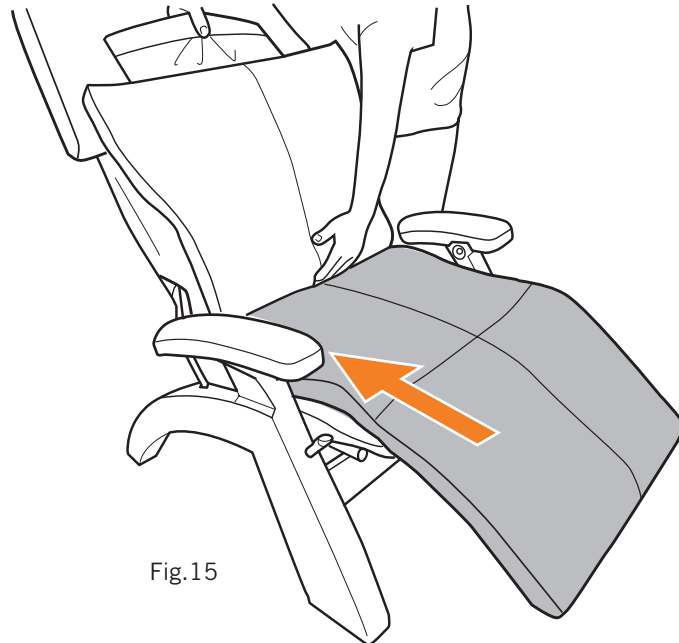

Fig.15
5. Lift up on the body pad to detach the seat hook-and-loop fasteners, pull it firmly up toward the seat, then press firmly down on the seat and leg area to secure it (Fig.15).